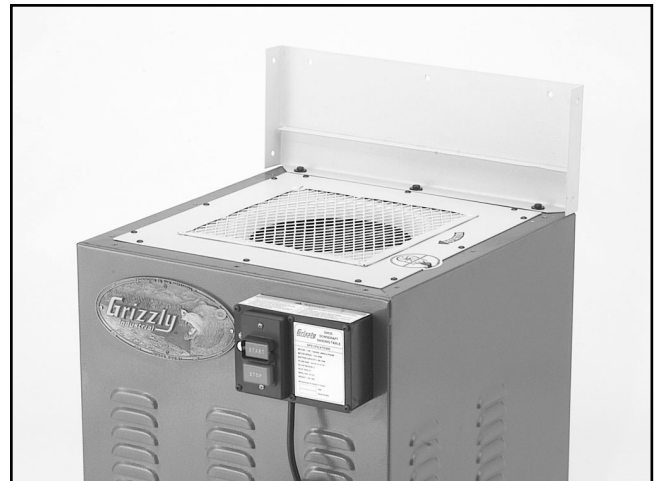

Figure 12. Rear filter wall installed on motor cabinet.
1. Attach the rear filter wall to the base with 3 hex bolts and 3 flat washers (see **Figure 12.**)